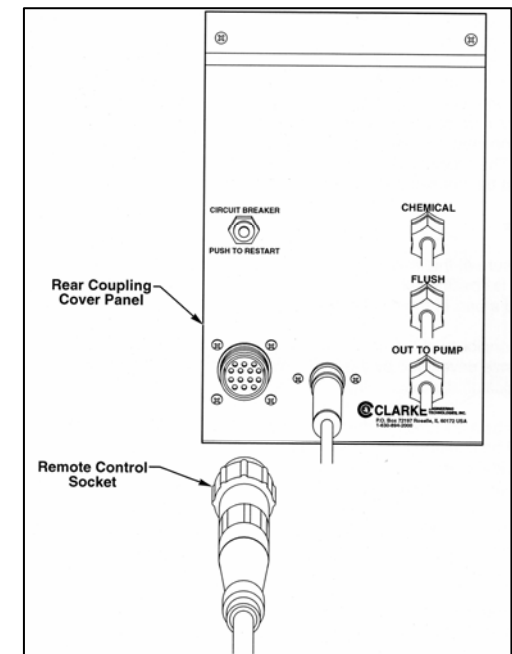

Fig. 53. Remote Control Station Cable Plug.
- 1. Plug the Remote Control Station Cable Plug into the socket located on the rear Coupling Cover Panel, right rear of engine. Be sure to hand tighten the knurled locking cap onto the socket. (ALL SWITCHES IN THE OFF POSITION) (Fig. 53).